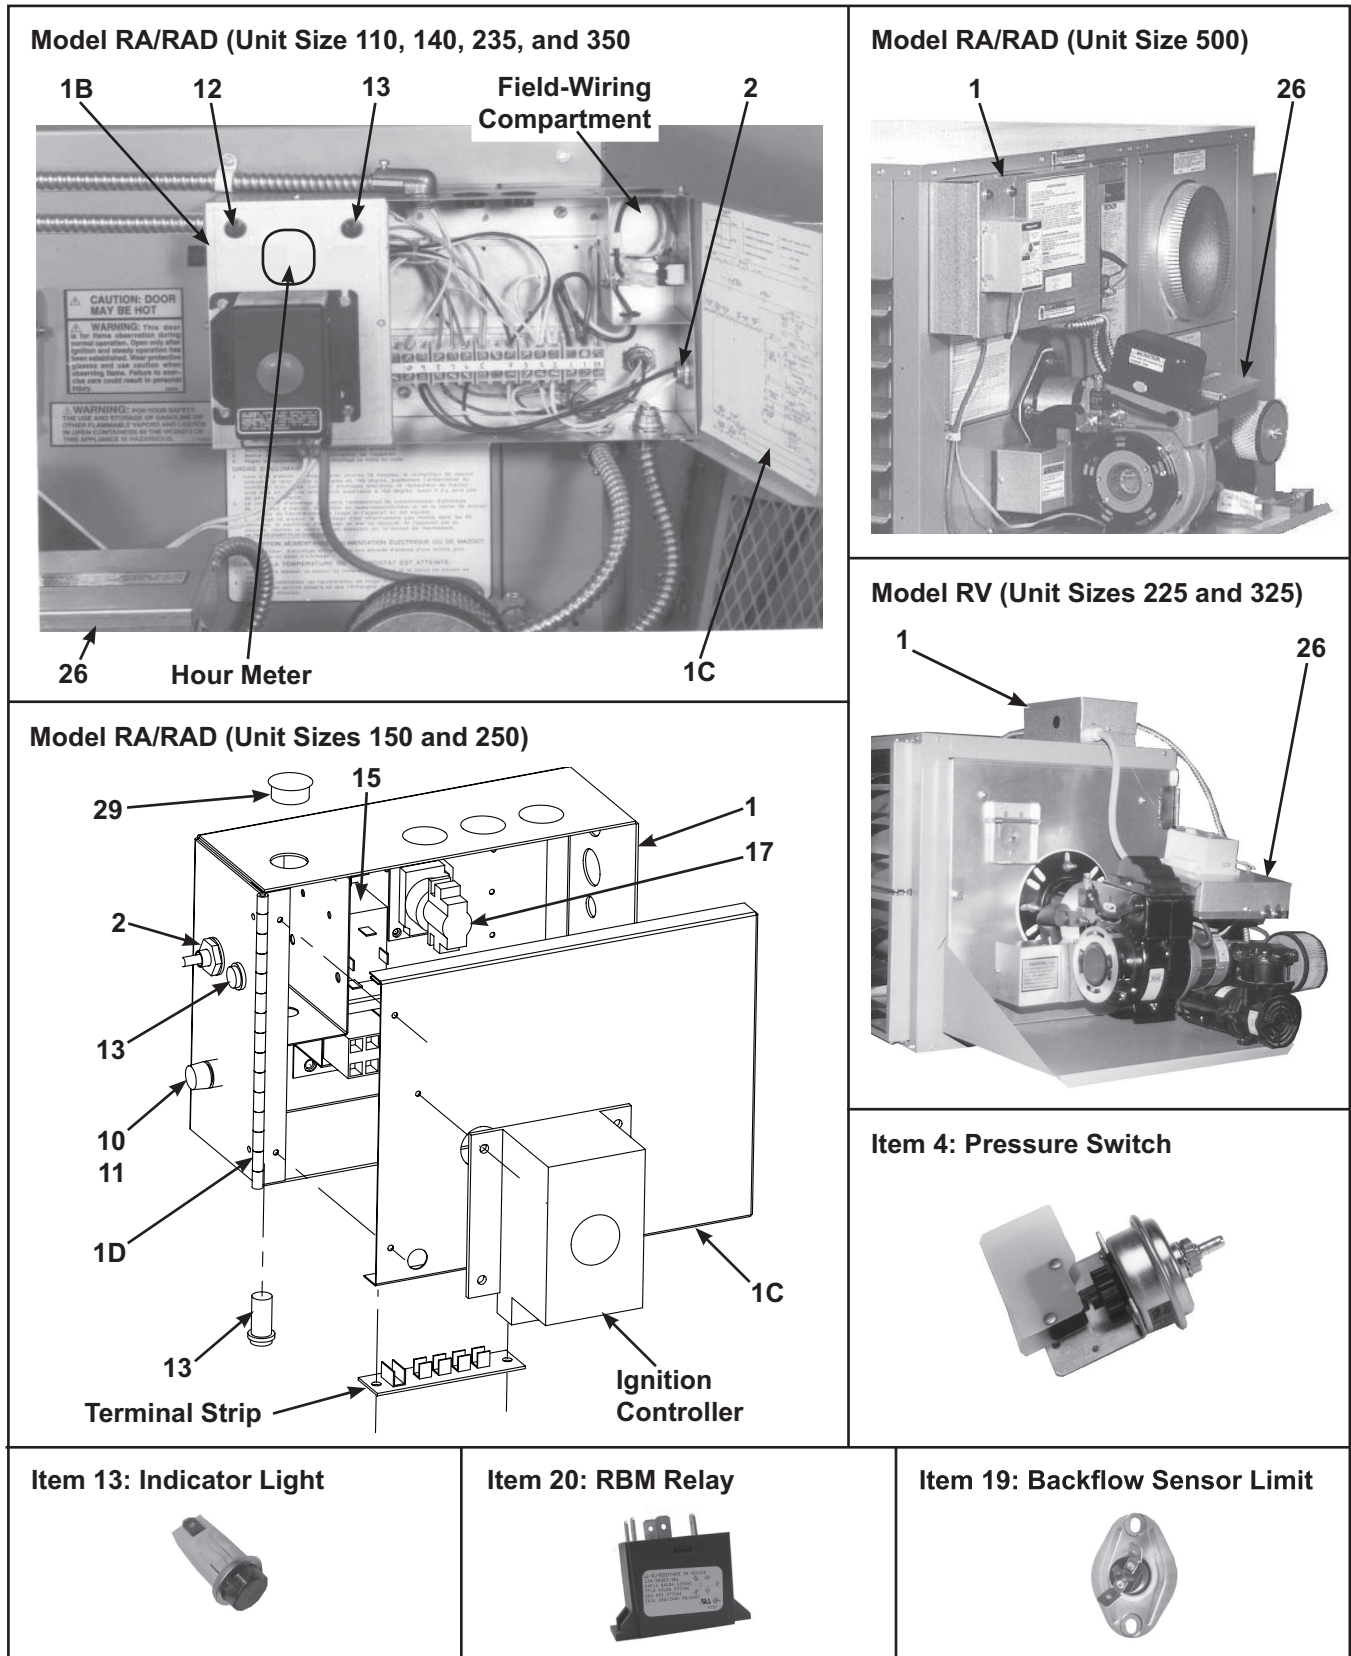

Figure 8. Electrical Box Assemblies and Components (Refer to Table 9)
- Electrical box assembly components are shown in Figure 8 and listed in Table 9.
- Depending on the unit's date of manufacture, its actual appearance may vary from Figure 8.
- The unit's wiring diagram is affixed inside the cover (item 1C) of the main electrical box (item 1).